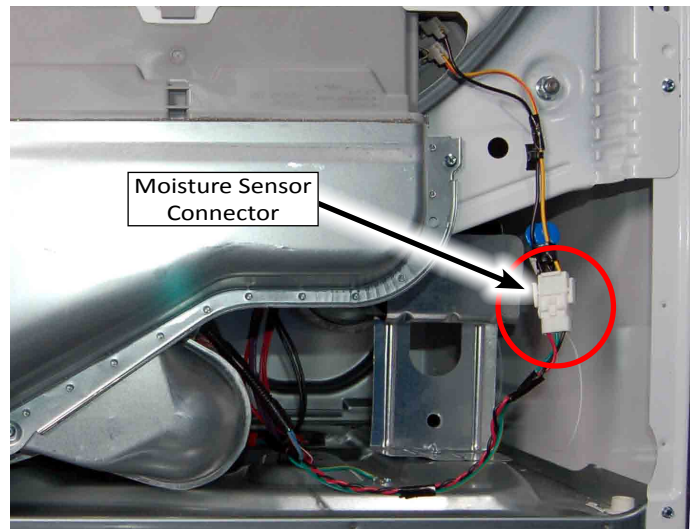

Figure 3
6. Disconnect Moisture Sensor connector (see Figure 3).